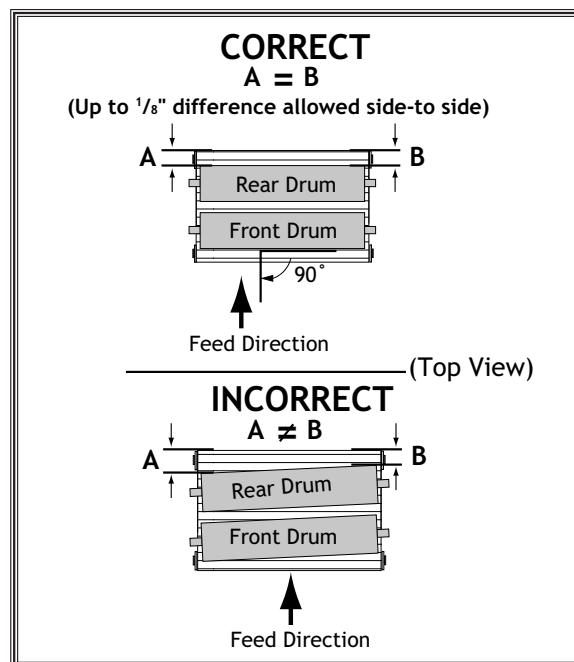
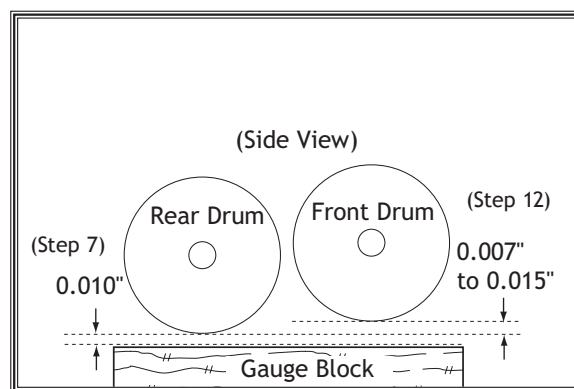

Figure 49. Drum perpendicular to feed direction.
Figure 58. Rear drum set below front drum.
There are three adjustments for the sanding drums: 1) the drums must be perpendicular to the feed direction (parallel with the conveyor roller, **Figure 49**); 2) the drums must be parallel to the top of the conveyor belt (**Figure 54, Page 38**); 3) the rear drum must be set approximately 0.007" to 0.015" below the front drum (**Figure 58, Page 39**).
The tolerances for having the drum perpendicular to the feed direction allow up to 1/8" difference from one side to the other (see **Figure 49**). If the drums are not perpendicular to the feed direction (in other words, parallel to the conveyor rollers), they may put a side load on the conveyor or belt during operation, forcing the conveyor to track off to the side and possibly causing damage.
6. Turn the micro-adjustment knob until a 0.010" feeler gauge fits between the drum and gauge board (**Figure 58**).
Note: The 0.017"-0.025" setting is a recommended range and includes the 0.010" setting on the rear drum and the additional 0.007" to 0.015" height from **Step 12** (See **Figure 58**). Some trial-and-error may be needed to find the optimal setting based upon the sandpaper grit size you use (ie, coarse grit = smaller number; fine grit = larger number).